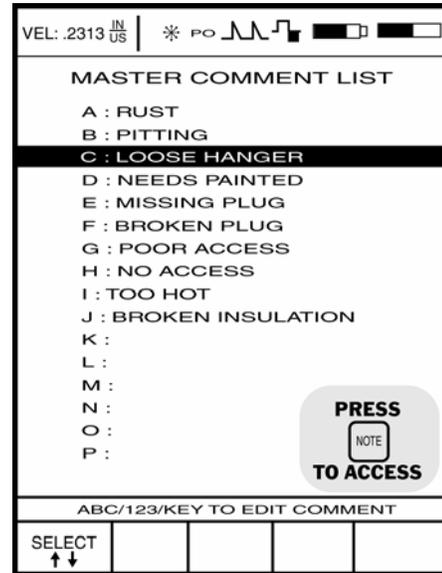

FIGURE 3-7—This is how a Master Comment List will look after you enter your own comments. It is accessed by pressing and holding  for at least three seconds.
Step 1: To access the Master Comment List, press  and hold the button down for three seconds. The display will look like the one shown in Figure 3-7, except that it will contain none of the comments shown. Note the **SELECT** selection at the bottom of the display.